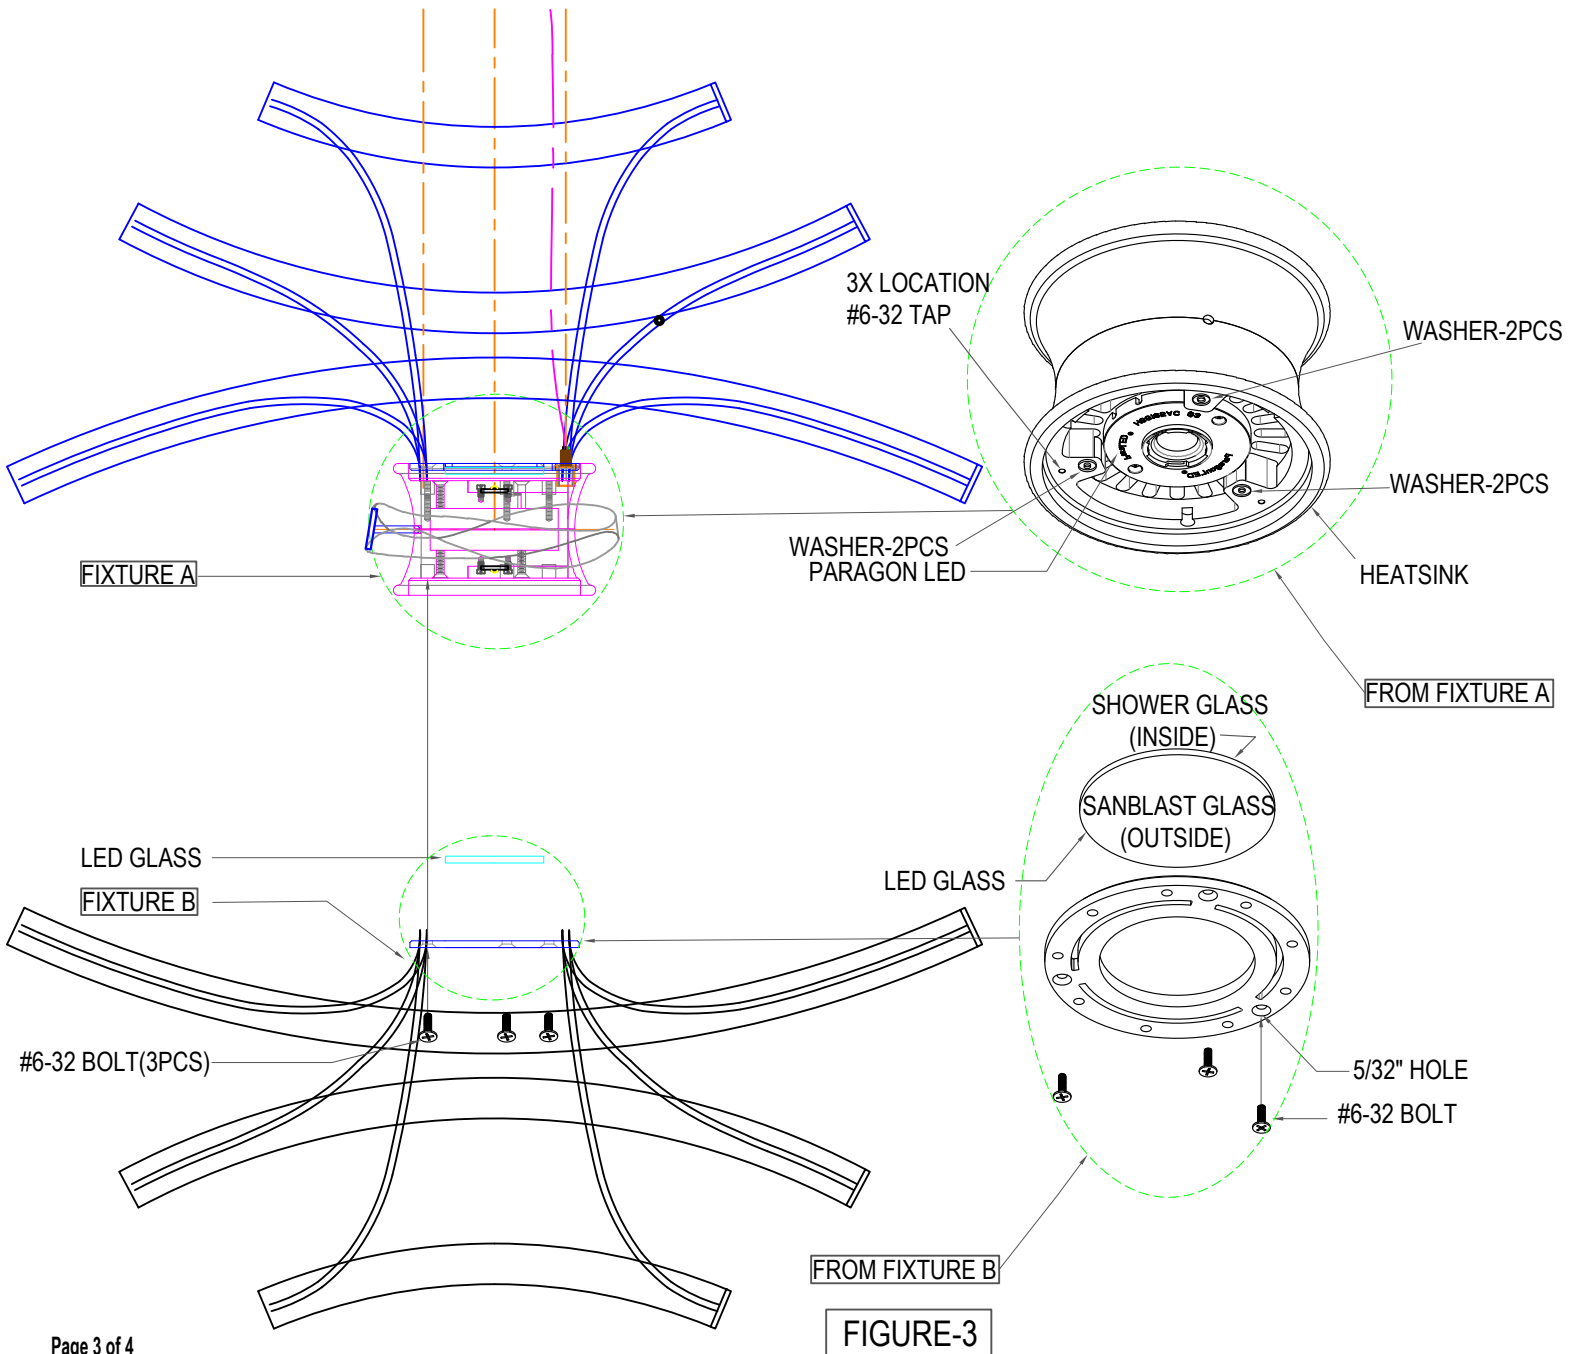

FIGURE-3
2. Identify Fixture B, place the glass on the top of fixture. Refer to Figure-3.
3. Attach Fixture B to Fixture A using the provided bolt. Use the appropriate tool in tightening the bolt. Refer to Figure-3